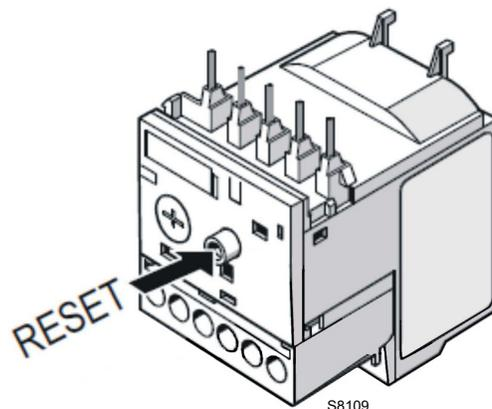

Fig. 39
- To reset, in the case of an intervention of the thermal relay, press the button "RESET" (Fig. 39).